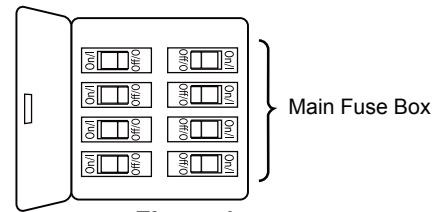

Figure 1
1. Remove the hanger ball portion from the downrod/hanger ball assembly by loosening the set screw in the hanger ball until the ball falls freely down the downrod. Remove the pin from the downrod, then remove the hanger ball. Retain the pin and hanger ball for reinstallation in Step 6. (Figure 1)
To avoid possible fire or shock, be sure electricity is turned off at the main fuse box before hanging. (Figure 1)
1. To set the code on receiver unit, slide dip switches to the same positions as set on the remote. If complete the receiver code setting process, put the rubber cover (included) in the receiver unit. (Figure 1)